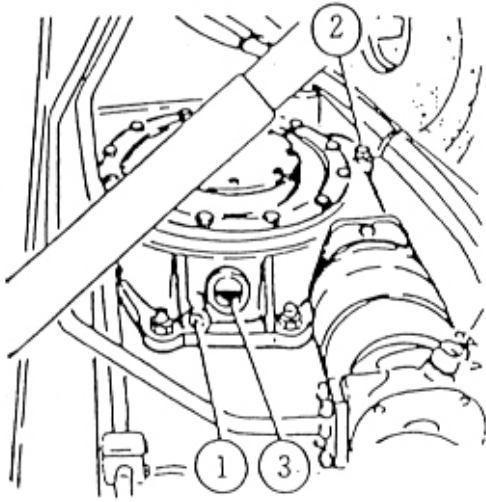

Fig.34
1. For better oil draining swing the grader blade. It is inclined towards the oil drain plug (Fig. 34/1) and put the blade on the ground.
2. Remove draining plug (Fig.34/1) and drain oil into a container, Remove the plug (Fig 34/2) for better draining of the oil. Close drain plug only when oil has completely drained.
5. Refill with new oil through the filling hole (Fig 34/2) until the oil reaches the middle of sight glass (Fig. 34/3).
6. Clean the plug (Fig 34/2) use a new sealing ring and tighten.
2. The oil level must be in the middle (oil level max.) of the sight glass (Fig 34/3).
3. If necessary fill up oil by the opening (Fig. 34/2)